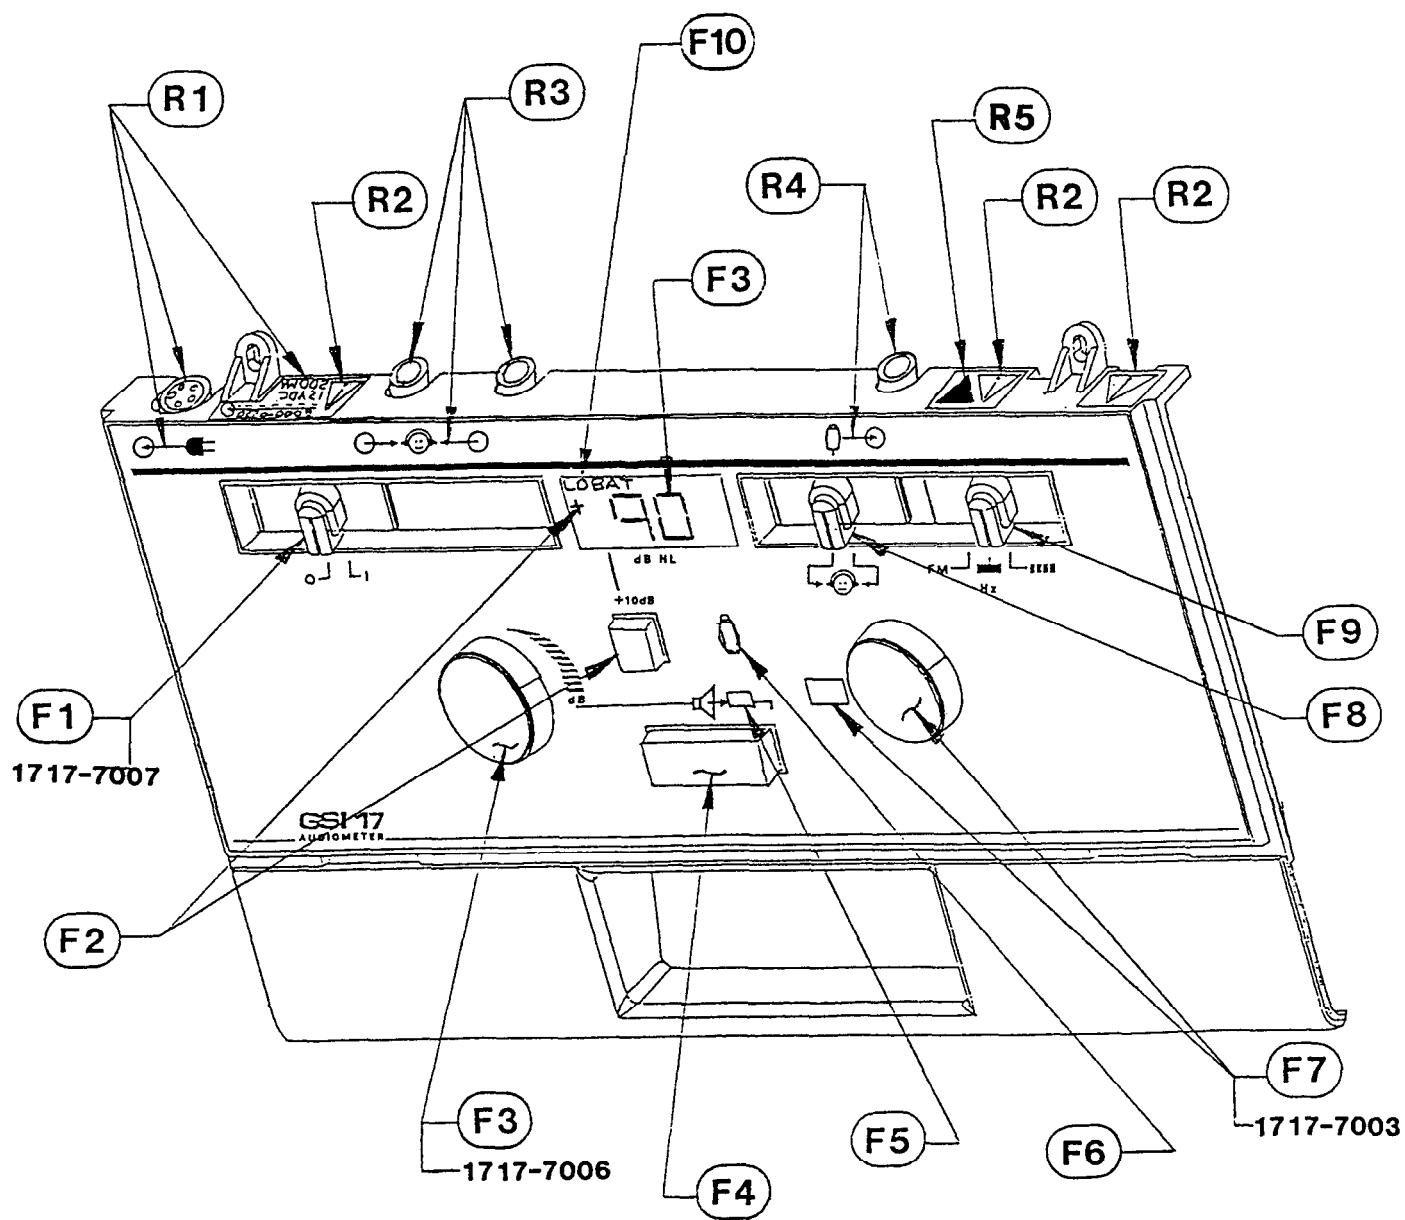

Figure 2-1: CONNECTORS, CONTROLS, INDICATORS
This section of the Service Manual is used to describe the Connectors, Controls, and Indicators of the GSI 17. Refer to Figure 2-1 for the layout and positioning of all Connectors, Controls, and Indicators.
2.1 THE FRONT PANEL CONTROLS AND INDICATORS (FIGURE 2-1)
- F1 - Power switch and indicators for ON (|) and OFF (0).